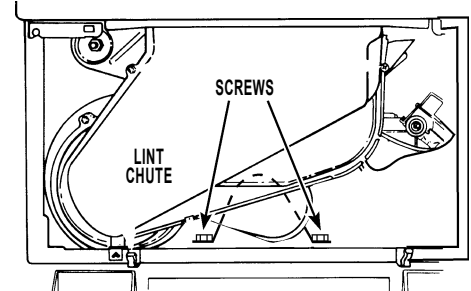

FIGURE 3
4. Open door and remove lint screen. Using a 1/4" nutdriver, remove the two (2) screws attaching the lint chute to the blower housing. Remove the lint chute.
5. In some gas applications, it will be necessary to remove the burner bracket to access the vent assembly. To do this, remove the two (2) screws holding the bracket to the cabinet base. The top of the bracket will then slip out from the burner assembly. To remove the vent assembly, reach through the opening and remove the two (2) screws from the U-bracket on the vent assembly. Remove the vent assembly by reaching in and pulling vent from the blower housing and then slip the vent assembly through the open area in front. Be careful not to damage any wires that are present. See Figure 3.
6. Take the vent (w/bracket) assembly – included in kit – and place end into blower housing. Using 1/4" nutdriver, secure the bracket to the cabinet base using the two (2) screws provided. See Figure 3.